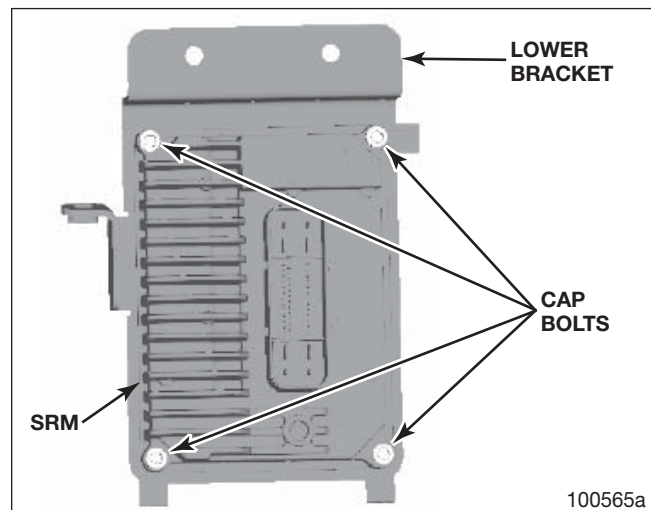

Figure 100 – SRM
1. Position the SRM on the mounting bracket. Secure the SRM to the bracket using three M6x35 socket head cap bolts. The upper right hand bolt will be used to secure the ground eyelet later. Torque to 5-7 Nm. Figure 100.